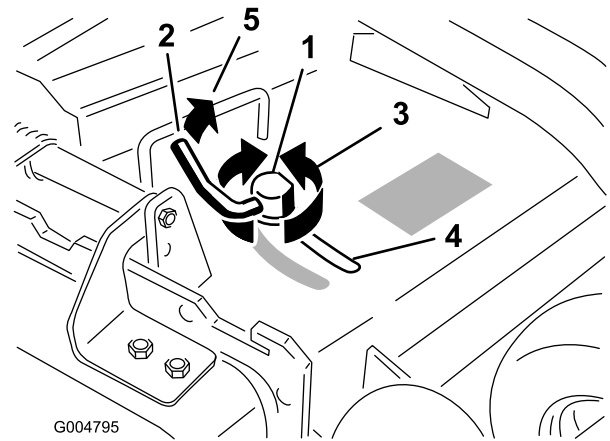

Figure 17
3. To adjust the cam lock, swing the lever up to loosen the cam lock (Figure 17).
5. Swing the lever back over to tighten the baffle and cam lock (Figure 17).